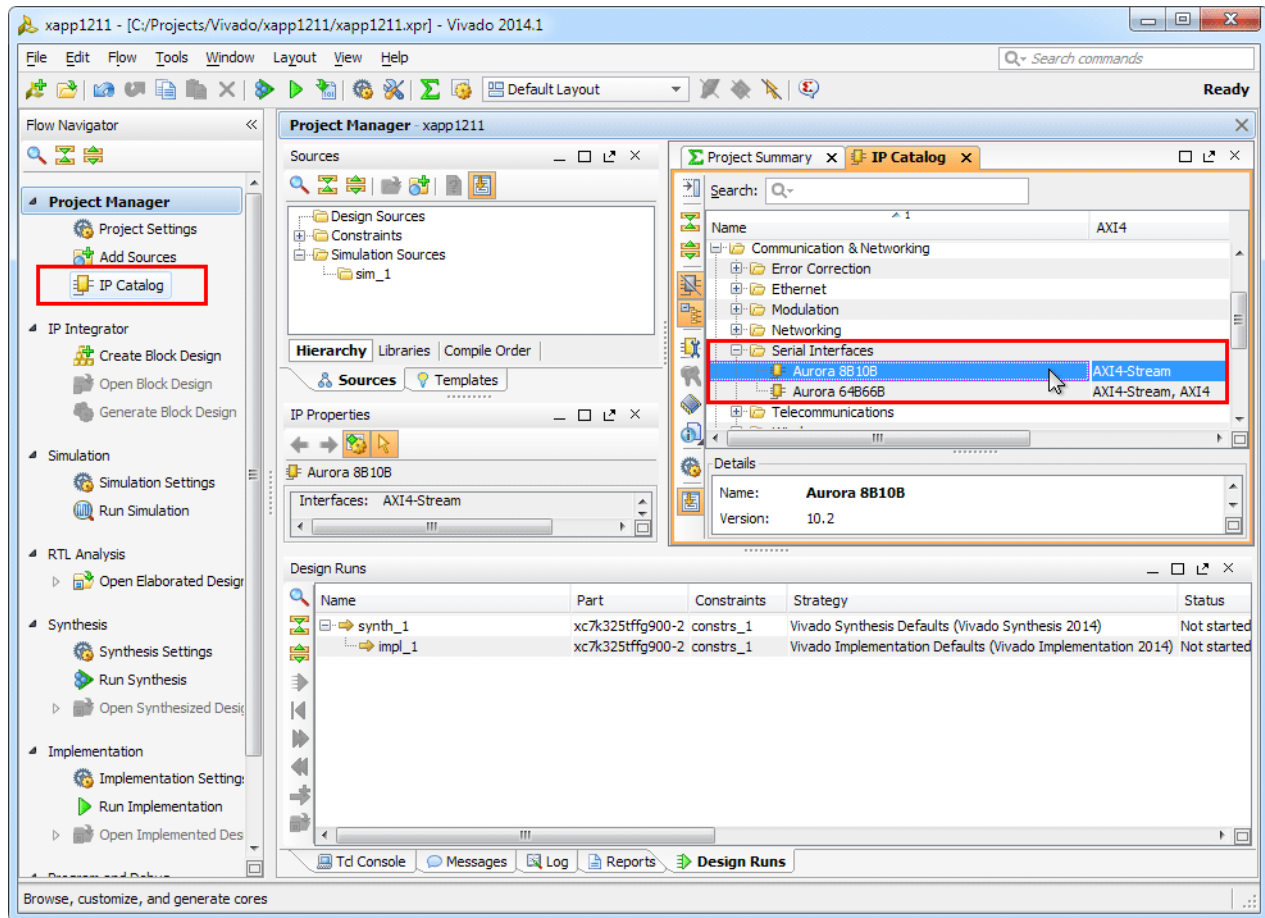

Figure 6: Aurora 8B/10B Core in IP Catalog
- Under Project Manager in the Flow Navigator panel, select **IP catalog** and search for **Aurora 8B10B**. The Aurora cores can be found under **Communication & Networking > Serial Interfaces** (Figure 6).